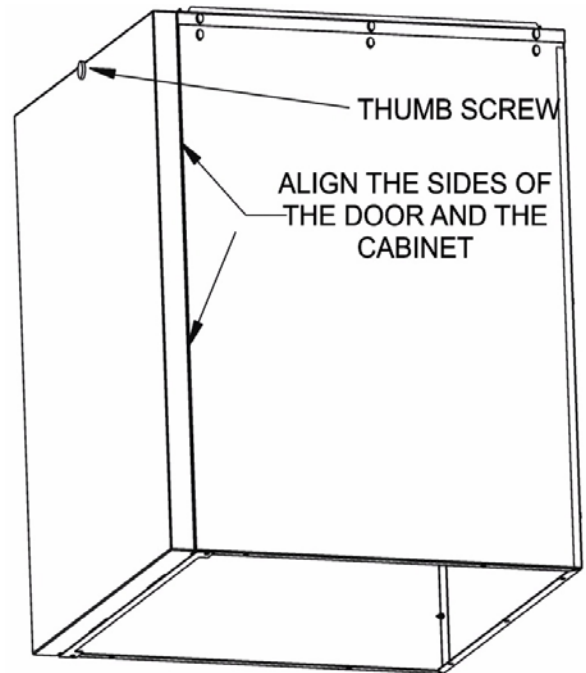

Figure 6: Aligning The Sides Of The Solid Coil Cabinet Door and Reinstalling Thumb Screw.
9. Push the grille forward until the grille is touching the cabinet and align the door so it is even with the sides of the cabinet. Aligning the grille with the cabinet is an important step in order to align the screw hole with the thumb screw. Refer to Figure 6.
8. Push door forward until the door is touching the cabinet and align the door so it is even with the sides of the cabinet. Aligning the door with the cabinet is an important step in order to align the screw hole with the thumb screw. Refer to Figure 6.